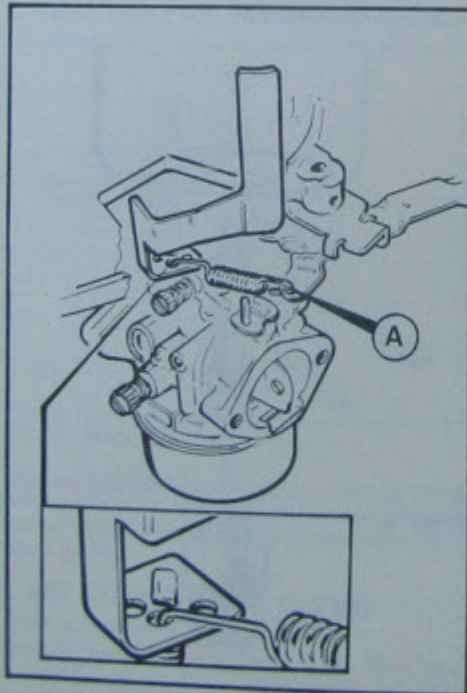

Fig. 17 A = Fixed speed governor spring
- Fit new fixed speed governor spring bracket (see Fig. 17 and 18).
- Fit new governor spring (see Fig. 17).